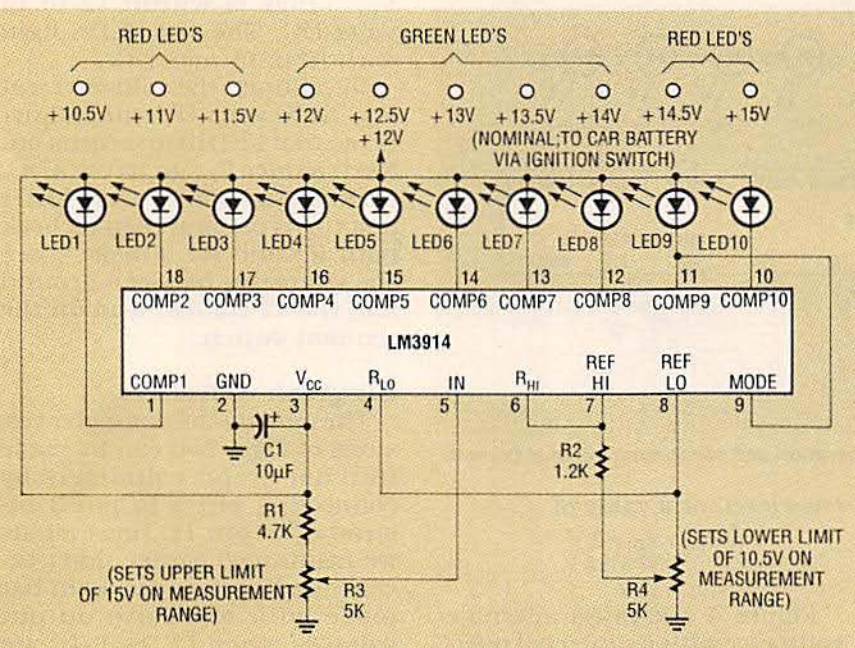

FIG. 6—AN EXPANDED-SCALE DOT-GRAPH voltmeter for use with a car battery.
**FIG. 6—THE COMPLETED PROTOTYPE.** The 9-volt battery clip attaches to a 4-AA cell holder that has a matching connector; the prototype voice messaging system, therefore, is powered from a total of 6 volts.
Next mount SIP resistor R4 (with pin 1—the dot—at the top), followed by the various capacitors, discrete resistors, and the microphone. Be certain to observe polarity when installing C1, C3, C4, C7, and the microphone. Next mount switches S1–S3 and the leads for the speaker and the power source. (The prototype uses a standard 9-volt battery clip and a 4-AA cell holder that snaps onto the 9-volt clip.) Figure 6 shows the completed prototype.
Figure 6 shows an expanded-scale moving-dot voltmeter that's intended for use in your car to continually measure the status of its 12-volt battery. Here, R2-R4 provides a basic range of 2.50 to 3.75 volts DC, but the input is derived from the positive supply via R1-R3. The reading thus corresponds to a pre-set multiple of the basic range value. The display uses red and green LED's, with the green LED's lighting when the  $V_{CC}$  range is within 12 to 14 volts DC. The red LED's light with 10 to 15 volts DC.